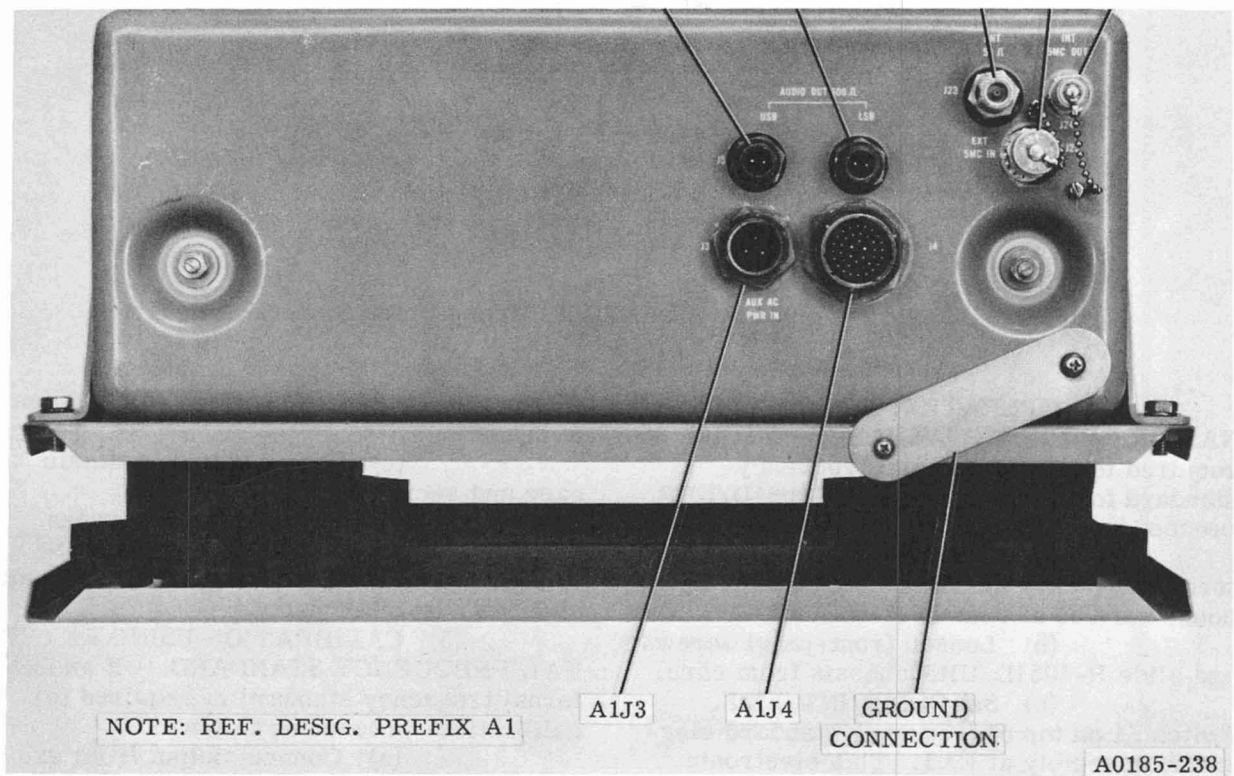

Figure 7-4. Radio Receiver R-1051D/URR, Rear View
d. INTERCONNECTION. - All connections are made at the rear of the unit (figure 7-4), with the exception of the receiver headset. An rf input is obtained by mating a type UG-941B/U connector and the necessary length of RG-215/U coaxial cable with connector J23, when the R-1051D/URR is installed separately.
(1) OPERATION AS REMOTE UNIT. - When the R-1051D/URR is to be